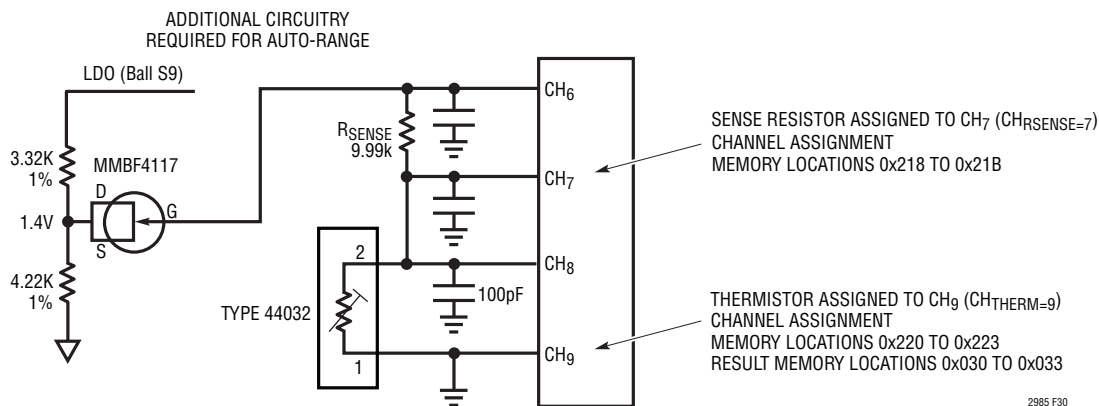

Figure 30. Differential Thermistor Example
*Additional Circuitry required for auto-range, see Figure 30.
Figure 30 shows a typical temperature measurement system using a differential thermistor. In this example a 30kΩ (44032 type) thermistor is tied to a 9.99kΩ sense resistor. The thermistor is assigned channel CH9 (memory locations 0x220 to 0x223) and the sense resistor to CH7 (memory locations 0x218 to 0x21B). Channel assignment data is shown in Table 62 and Table 63).
Note 1: Additional Circuitry required for thermistors using auto-range. See Figure 30.